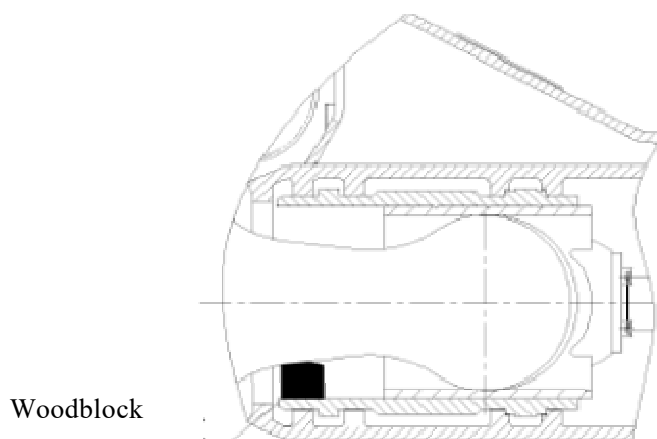

Fig. 22 Crosshead Assembly
1) Insert one woodblock (See Fig.22) between the small end of linkage and crosshead guide plate to prevent the guide plate from damage caused by the sliding of linkage.
3) After mounting crankshaft assembly on rack, check the roller of main bearing before installing main bearing cap (2). Ensure that each row of rollers of two bearings can support identical loads. The specific measures are as follows, rotate each row of rollers by hand. It is normal that 4-6 rollers will be seized due to gravity. However, it is not allowed of having the phenomenon that a certain row of rollers can be rotated. In addition, two sides of outer ring of floating bearings shall have approximately equal axial clearance. Main bearing cap (2) shall only be installed after check.
Crosshead can be installed from the frontend (fluid end) or the rear end of guide plate. See Fig. 22. The following notes shall be followed when installing the crosshead.